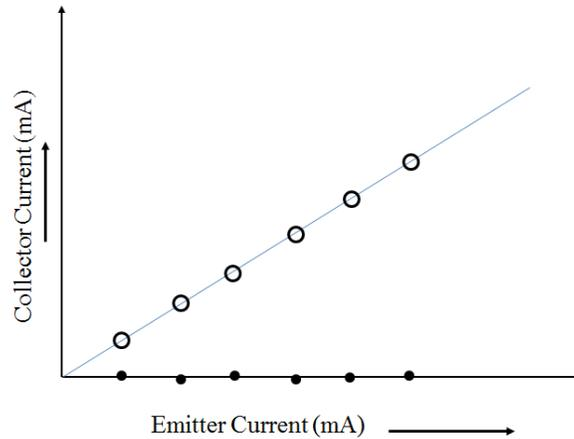

Figure 3. Characteristics of collector current versus emitter current
- (iv) Draw the characteristics as shown in figure 3.